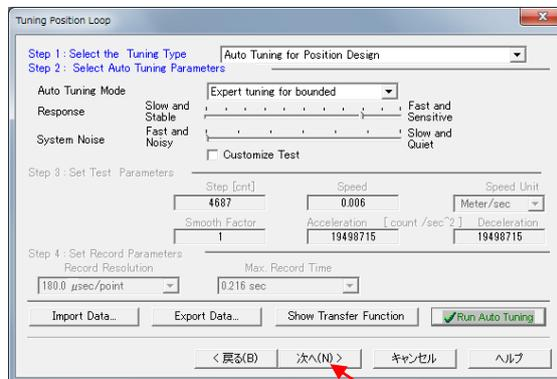

Fig. 6-2-33
3) Click **Next >** button in the position loop tuning screen (Fig.6-2-33).